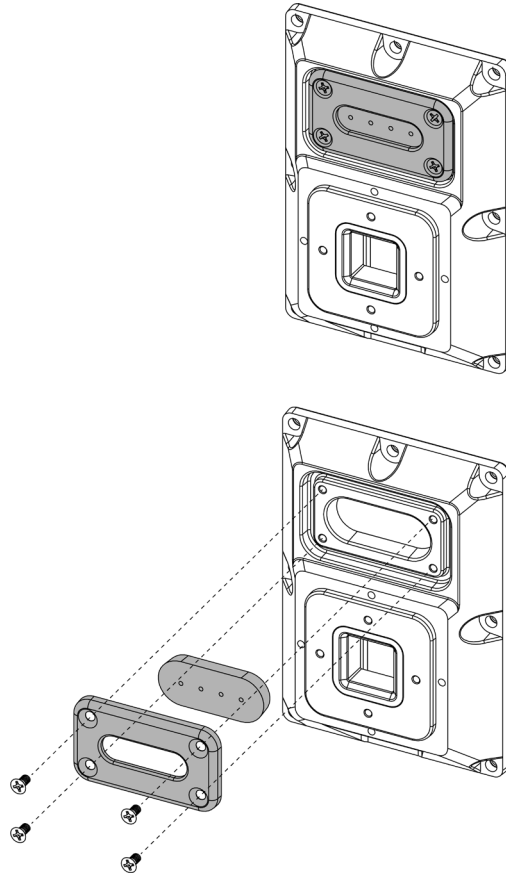

Figure 2
Using a Phillips screwdriver, remove the four (4) screws covering the grommet plate to remove both the grommet plate and rubber grommet (Figure 2).